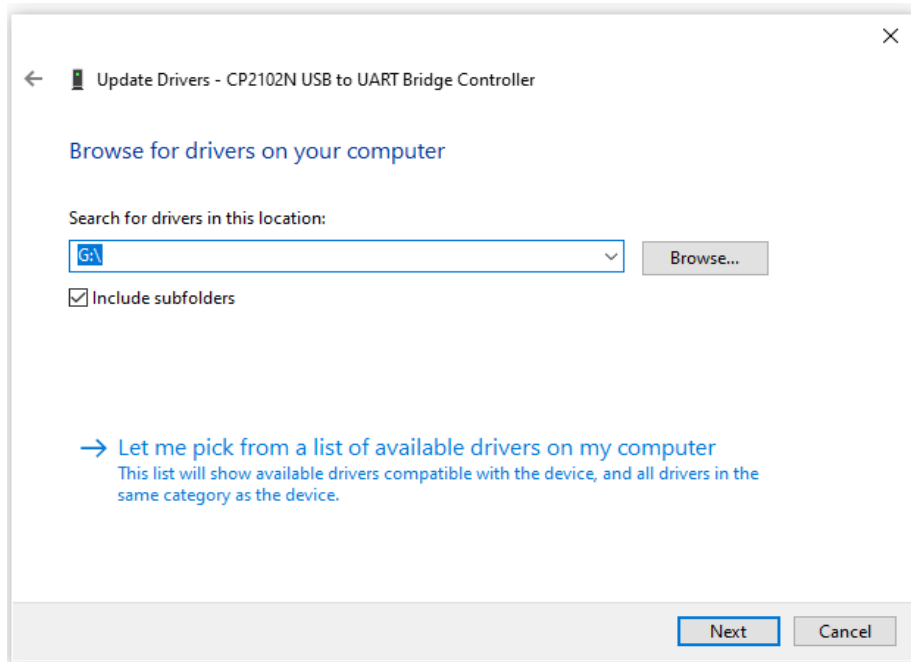
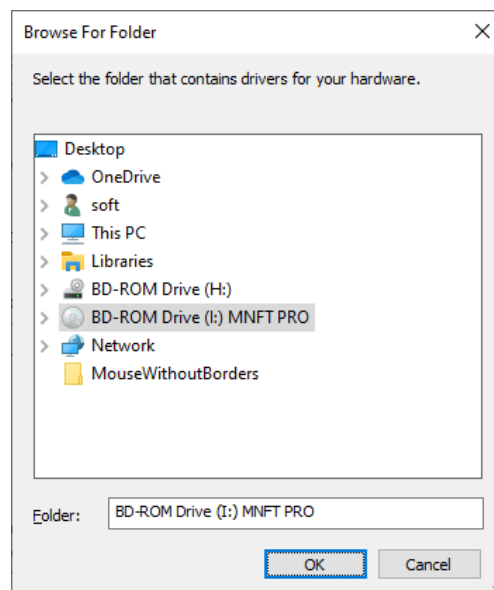

Figure 2-9 Driver update screen (2)
Figure 2-10 Folder reference screen
7-9) As shown in Figure 2-9, enter the drive name of the CD-ROM in "Search for a driver in the following location:". Enter or select from "Reference (R) ..." (Fig. 2-10). Click Next.